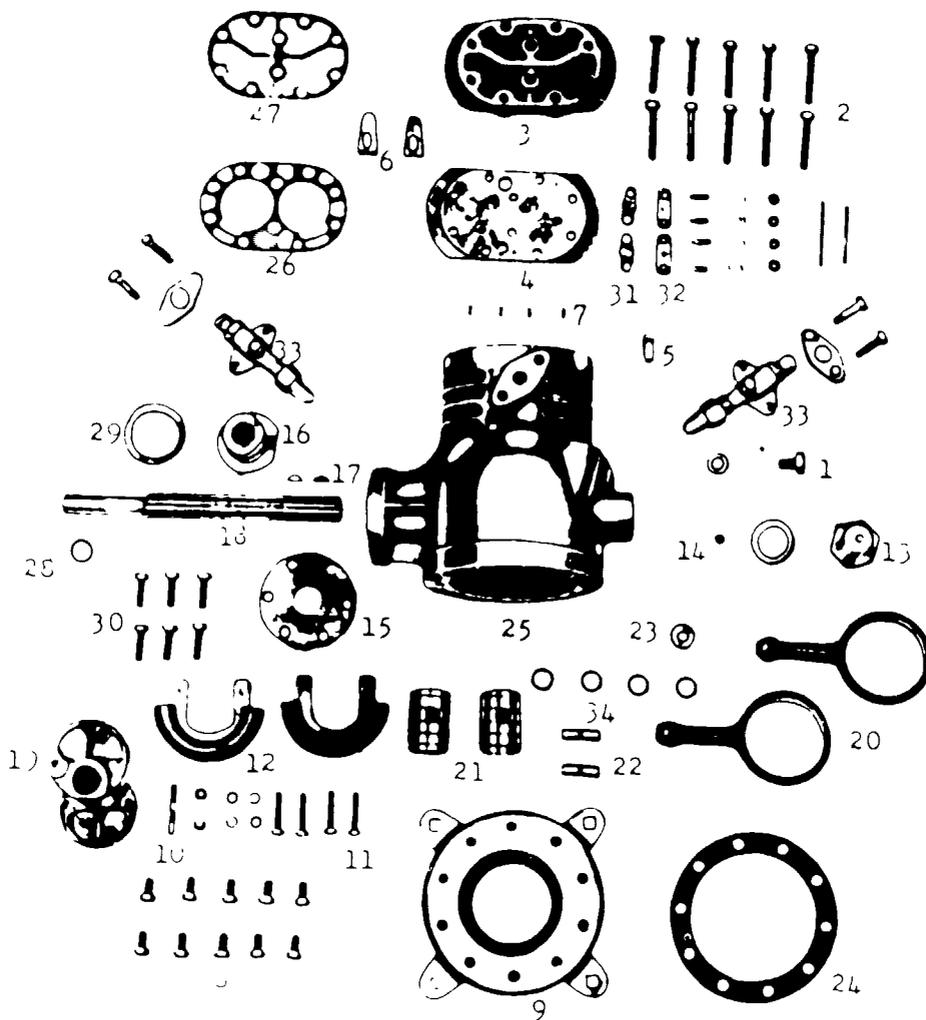

Figure 4. Reciprocating Compressor Parts
1. Lay out all parts as illustrated in figure 4.